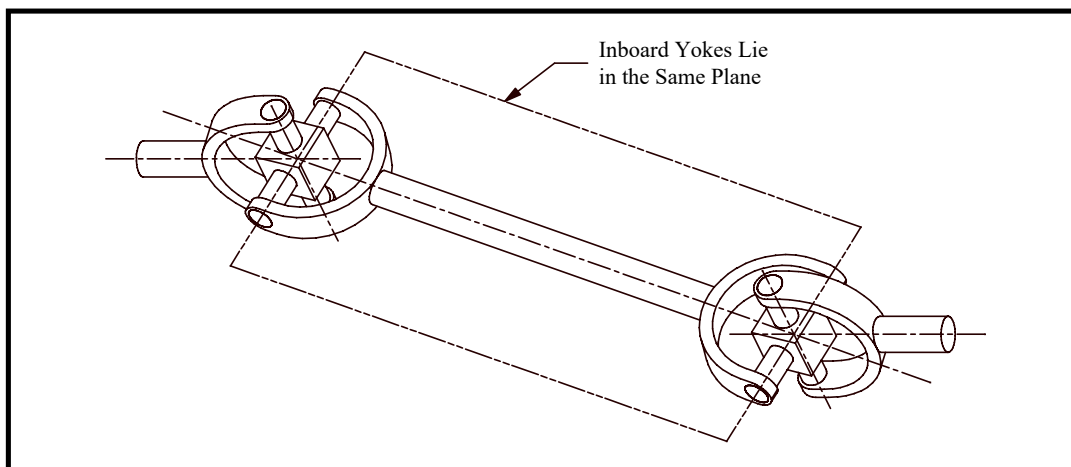

Figure 4.3
- 4.1 If partial disassembly is required, take note of the matchmarks when specified on the Sales Drawing and end to end alignment of the yokes. Occasionally, because of size or customer's preference, the flange adapters are not assembled to the universal joints. Check the assembly and Ameridrives Sales Drawing for matchmarks or other markings pertinent to the assembly. Unless otherwise specified on the Ameridrives Sales Drawing, it is important **that the yokes at each end of the intermediate shaft assembly be in the same plane. See Figure 4.3.** Therefore, it is necessary to refer to the Ameridrives Sales Drawing prior to and during installation for parts identification and specific set-up dimensions.
CAUTION: YOKES AT EACH END OF THE INTERMEDIATE SHAFT MUST BE IN THE SAME PLANE. SEE FIGURE 4.3.